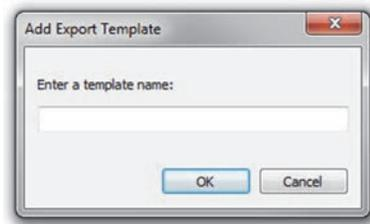

Figure 1-34 The Add Export Template dialog box
1. Click **Add** to open the **Add Export Template** dialog box (see Figure 1-34 on page 28).